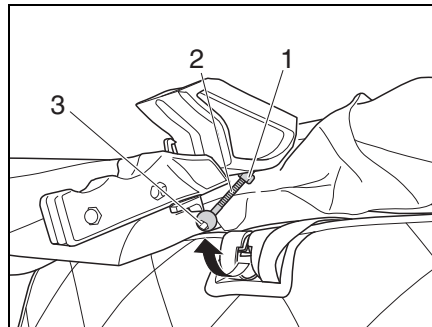

Fig. 45 Pop-up roof latches
- Swivel the bolt (Fig. 45,2) out of the locking receptacle.
- Loosen the hexagon head screw (Fig. 45,1).
- Tighten the bolt with a hexagon socket spanner at the hexagon receptacle (Fig. 45,3).
- Tighten hexagon head screw (Fig. 45,1) and swivel bolt (Fig. 45,2) into locking receptacle.